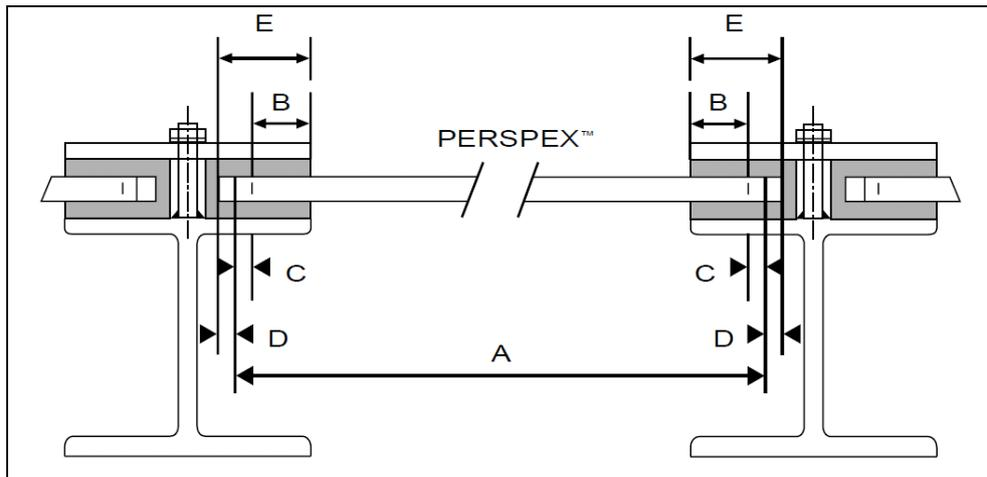

Figure 3 Mounting details for PERSPEX™ glazing
Figures 3 and 4 give the recommended thicknesses of PERSPEX™ for various wind loads when designing for square windows, with all edges fully supported
**Figure 3** shows a typical profile assembly and **Table 12** the recommended rebate depth for various panel sizes, based on installation at 20 °C.